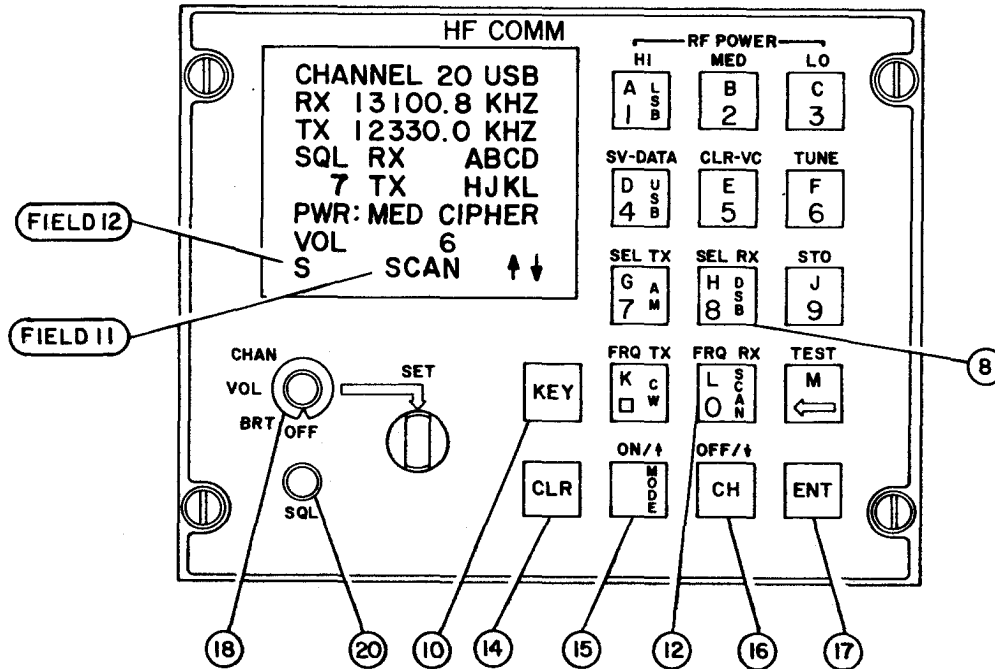

Figure 2-19. Scan Mode Function, Controls and Indicators
- k. **Scan Mode.** Refer to figure 2-19. The two operations necessary for scanning are, programming channels onto the scan list, and initiating the scan.